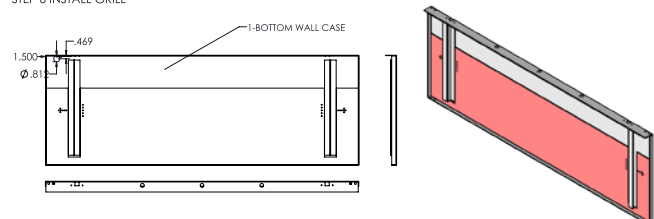

Figure 11
9. The operation of this unit is controlled by a built-in thermostat. A digital temperature read out will be displayed on the control panel. For remote thermostat operation, connect the thermostat wiring to the terminal block located on the module board. Move switch #1 on the thermostat switch to "on". (See Figure 11)